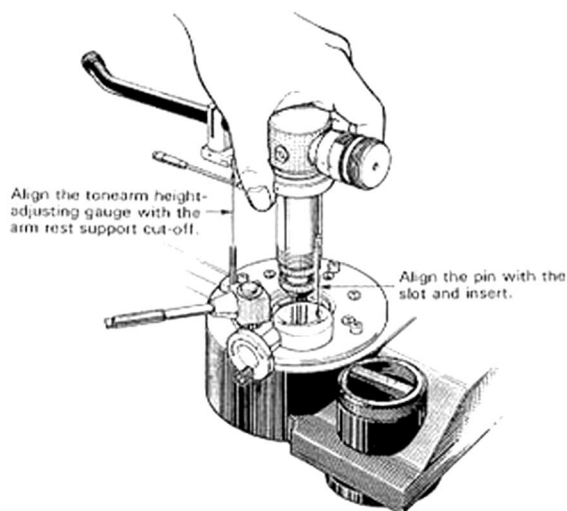
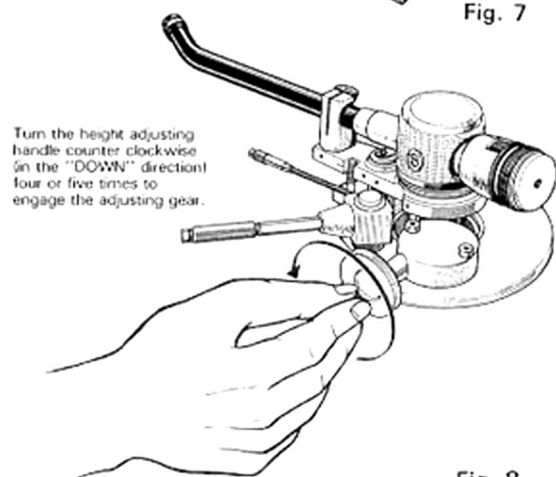

Fig. 7
Fig. 8
2. Align the tonearm height-adjusting gauge with the arm rest support cut-off and carefully insert the tonearm into the arm base. (Fig. 7) Turn the height adjusting handle counterclockwise (in the "DOWN" direction) four or five times to engage the adjusting gear. (Fig. 8) Adjust the tonearm height after installing the cartridge (refer to page 9).